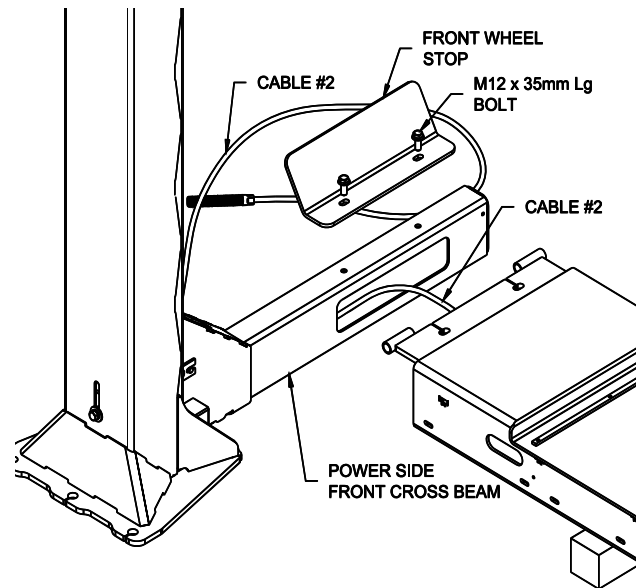

Fig 11 – Front Cross Beam Installation
- 22) Ensure that the power side front cross beam is touching the power column base plate and stand the column up. Move the column into position and remove the cross beam sheave. Reach in through the access hole in the cross beam tube and pull out the 6 ft. roll of 1/8" dia. plastic air line connected to the air cylinder at the end of the cross beam. Feed cable #2 into the cross beam access hole and back out the top, **Fig 11**.